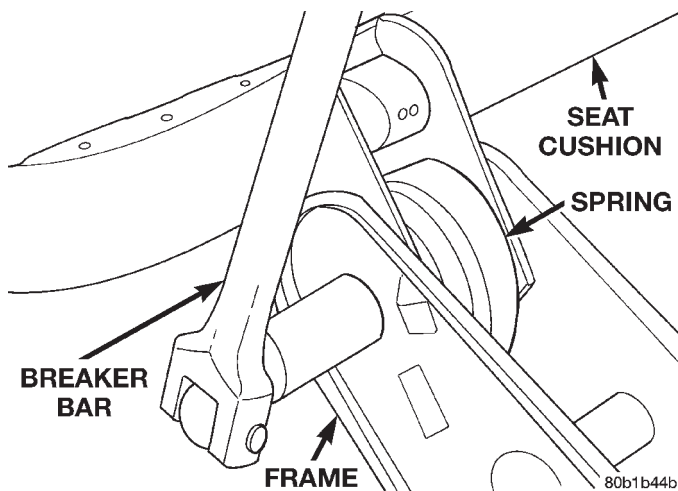

Fig. 8 Pivot Pin And Spring
(3) Using a breaker bar or equivalent, rotate the outboard spring loaded pivot pin to release seat cushion from frame (Fig. 8).
(4) Remove the pivot pin and spring.
(5) Separate seat cushion from frame.